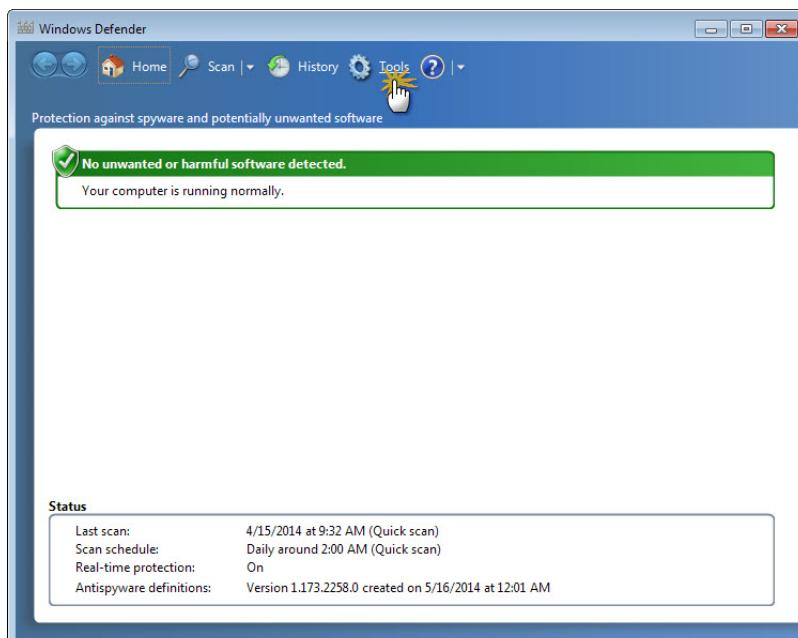

Figure 2-9. Deactivating Windows Defender (B)
- 2 In the *Windows Defender* dialog box click on **Tools** (Figure 2-9).